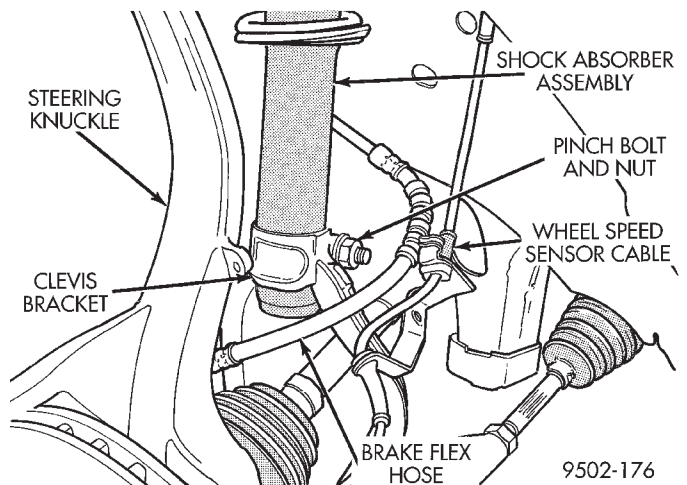

Fig. 14 Shock Absorber Clevis Pinch Bolt
(6) Remove bolt (Fig. 14) attaching shock absorber clevis to the shock absorber.
(12) Tighten the **nut** on the shock absorber clevis pinch bolt (Fig. 14) to a torque of 88 N·m (65 ft. lbs.).